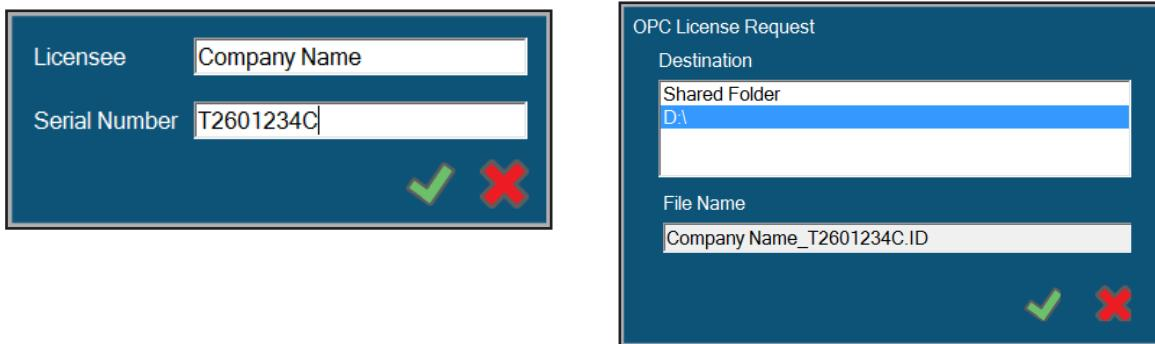

Figure 3.10 Enter Company and Serial Number
8. A pop-up with 2 blank fields will be displayed, as shown on the left in Figure 3.10. In the *Licensee* field, input the company name that purchased the OPC server license. In the *Serial Number* field, input the serial number corresponding to the FLEX2 analyzer you are licensing. Select the green checkmark icon to save these entries and generate the unique .ID file.